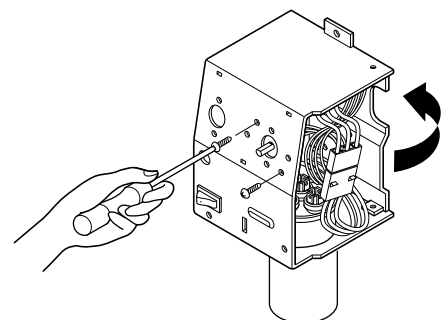

Figure 15
5. Remove the rotary switch. (See Fig. 15)